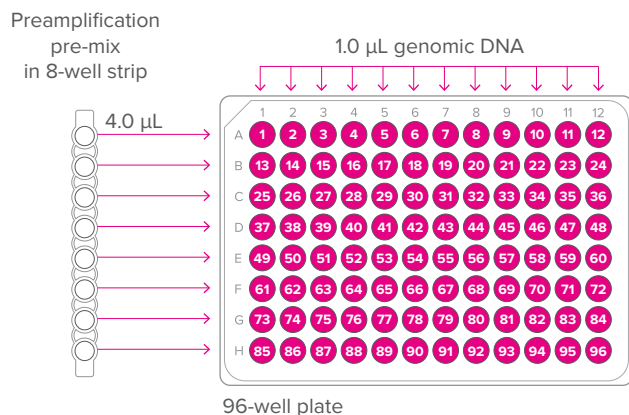

Figure 1. Preparation of preamplification reaction mix
- 3 Prepare the preamplification reaction mixes per sample as shown in Table 2 and Figure 1.
- b Remove the plate from the DNA-free hood and add DNA samples to each well containing pre-mix, as shown in Figure 1.